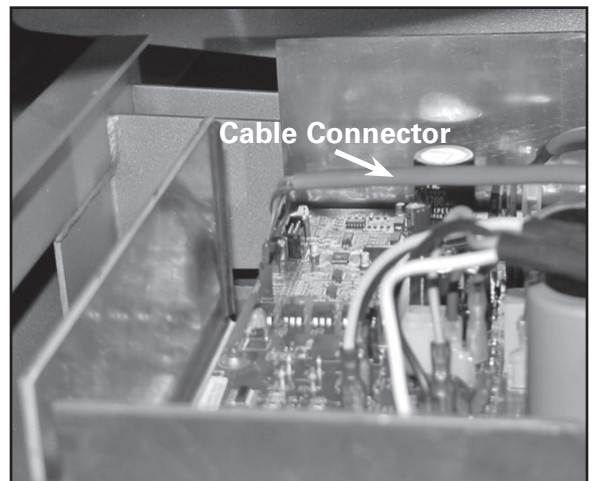

Figure 5-3: I/O Connectors.
A) From the VSD Board. See Figure 5-3.